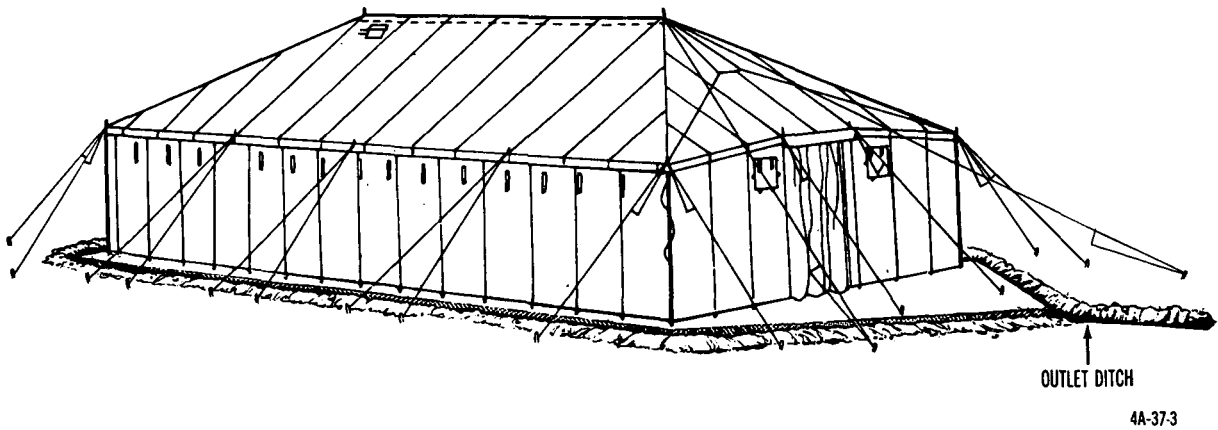

Figure 111. Trenching a tent.
e. To carry the water off, dig an outlet ditch (fig. 111) at the lowest point of the area and connect it to the trench which has been dug around the tent.